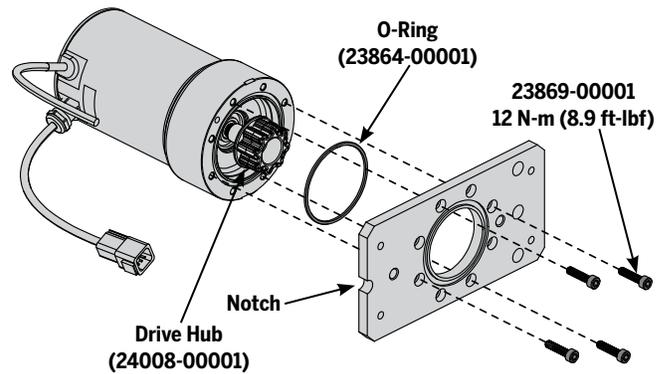

Figure 131: Motor Mount Plate
7. Using a 5 mm hex wrench, remove the four fasteners as shown in **Figure 131**.
5. Orient the Motor Mount Plate on the Motor so the notch on the mount plate is centered between the harnesses on the motor. See **Figure 131**.
6. Using a 5 mm hex wrench, install the four fasteners as shown in **Figure 131**.